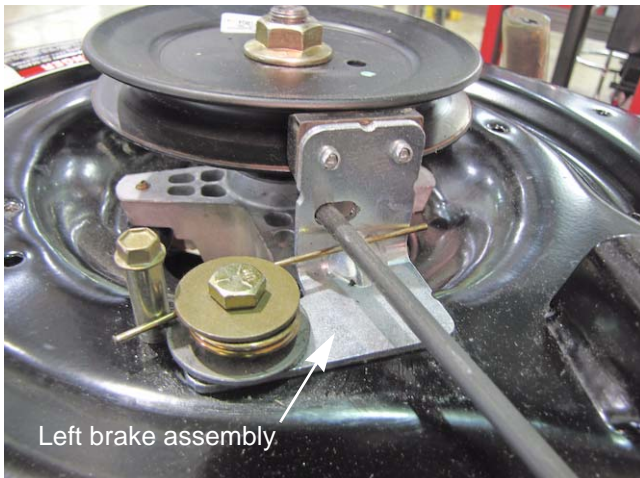

Figure 8.29
4. In this example you can replace the left side brake assembly by removing the hex cap screw and nut that secures the brake assembly to the deck. See Figure 8.29.